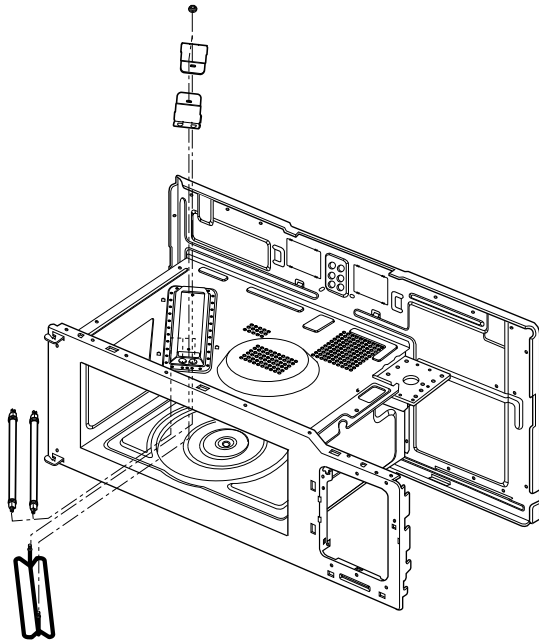

Figure 14
E. REMOVING GRILL HEATER (Figure 14)
- (1) Remove the outer case.
- (2) Remove the air duct by removing six screws securing it to the oven front plate, guide air and glasswool-L cover.
- (3) Disconnect the wire leads of air duct.
- (4) Remove the upper insulator by removing one screw.
- (5) Remove the four screws securing the heater terminal and two net screws securing the heater barrier.
- (6) Remove the heater holding bracket and remove the grill heater from the cavity.